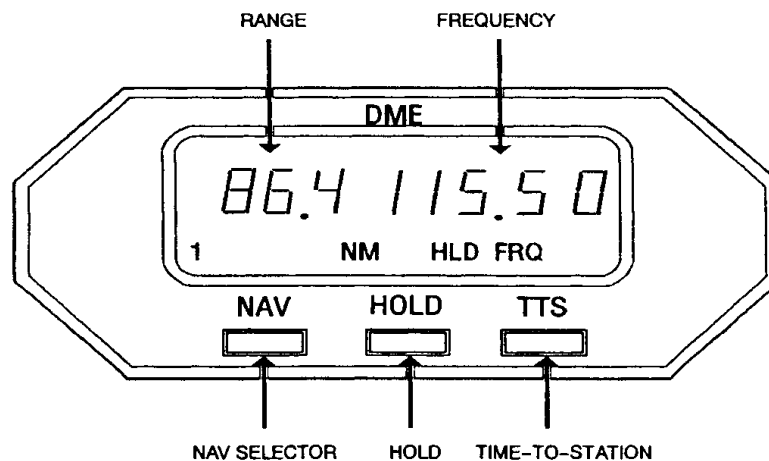
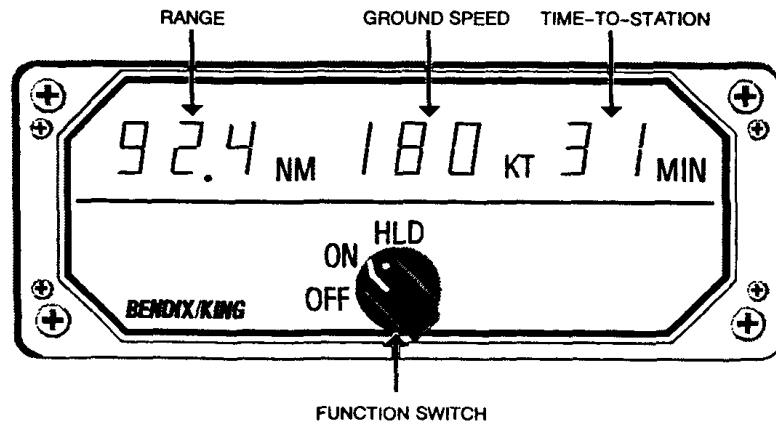

Figure 1. SD-442B Control and Display Functions
Figure 2. KDI-572 (P/N 066-1069-15) Control and Display Functions
All controls and displays used to operate the FliteDME Distance Measuring System are located on the SD-442B Selector-Display or the KDI-572 Master Indicator. Refer to Figure 1 and Figure 2 for the following discussions:
- (1) The FUNCTION SWITCH on the front of the KDI-572 has three positions OFF, ON, and HLD. In the OFF position, the master indicator and the remote mounted DME are turned off. In the ON position, the DME is channeled from the NAV 1 control head. In the HLD position, the DME is channeled to the last selected NAV 1 frequency. To prevent the display of false information, the KDI-572 will display dashes and the CDM-451 will stay in "search", whenever power is turned on, or momentarily interrupted in frequency HLD mode. Normal operation is re-established by switching to the ON position.
- (2) The KDI-572 displays DME range, speed, and time-to-station, as shown in Figure 2. In HLD mode, an "H" is displayed to indicate the unit is in hold. "RNV" will be displayed when the displayed distance, speed, and time-to-station are derived from an Area Navigation System.
- (3) When the CDM-451 is locked to a ground station, range is displayed to the nearest 0.1 nautical mile, from 0 to 99.9 nautical miles, and to the nearest 1 nautical mile, from 100 to 389 nautical miles.